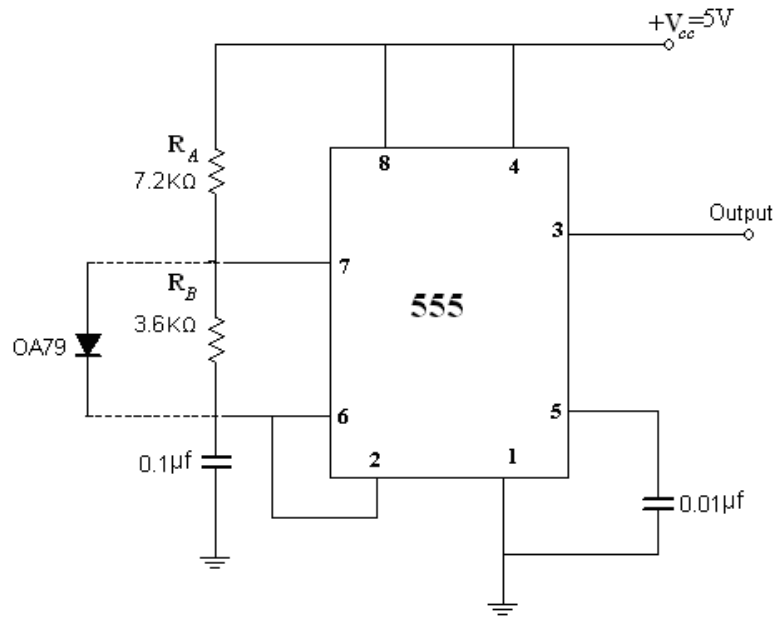

Fig 2: Astable operation
1. Connect the circuit as per the circuit diagram shown in Fig 2 without connecting the diode OA 79.